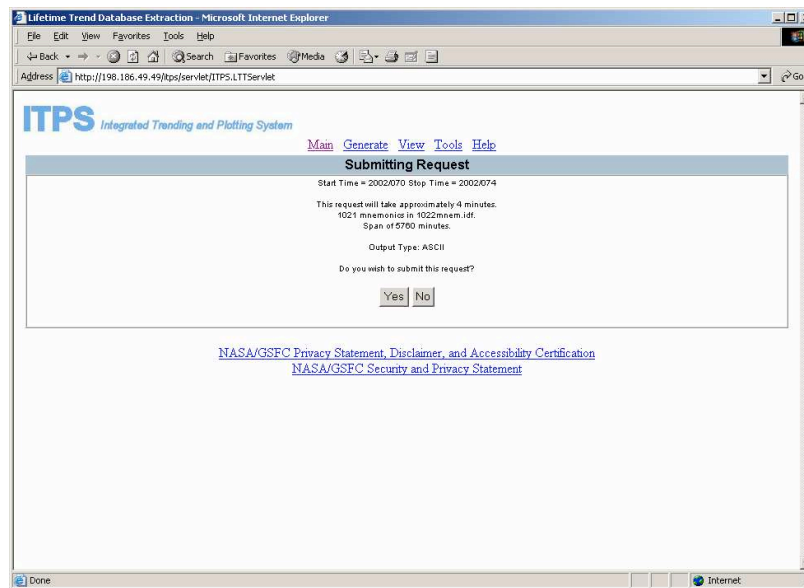

Figure 132: LTT Request Follow-up Screen
- Follow directions on the LTT Request follow-up screen (see Figure 132) to submit or abandon the request.